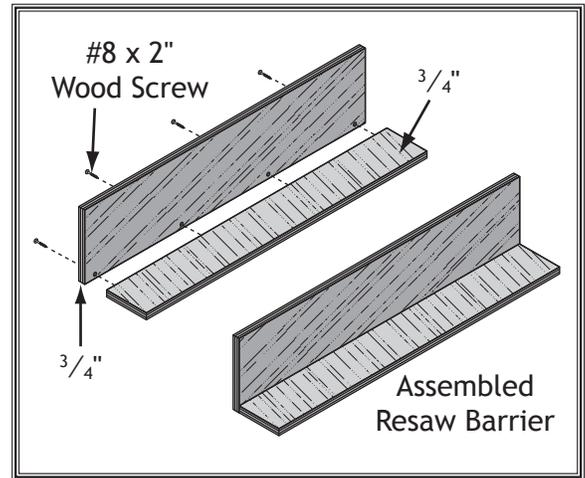

Figure 72. Resaw barrier.
3. Glue end of 3" board, then clamp boards at a 90° angle with larger board in vertical position, as shown in **Figure 72**, and fasten them together with wood screws.